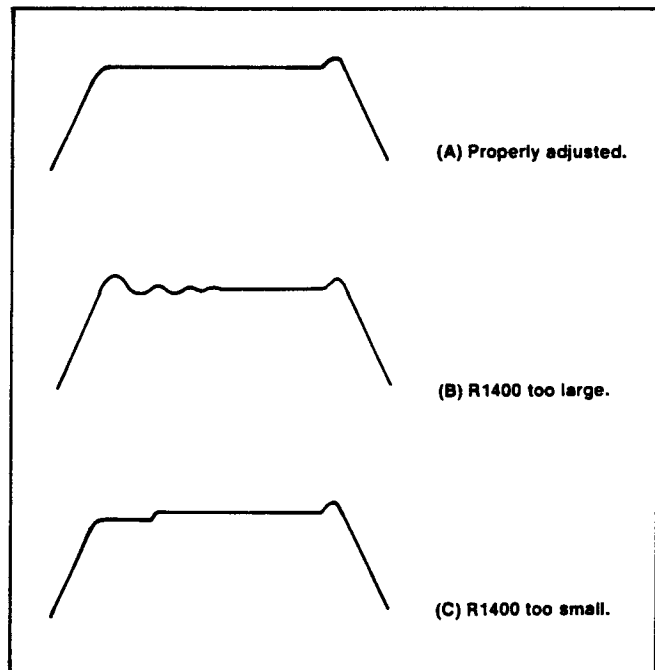

Fig. 5-3. Waveforms indicating A6R1400 value is: (A) properly selected; (B) too large; (C) too small.
h. If the leading edge corner and top of the waveform does not look like Fig. 5-3, a new value for A6R1400 must be selected. Select one of the following to replace the existing A6R1400 value depending on the waveform appearance.
i. Repeat 13f, then 13h until the waveform appearance is similar to that in Fig. 5-3.